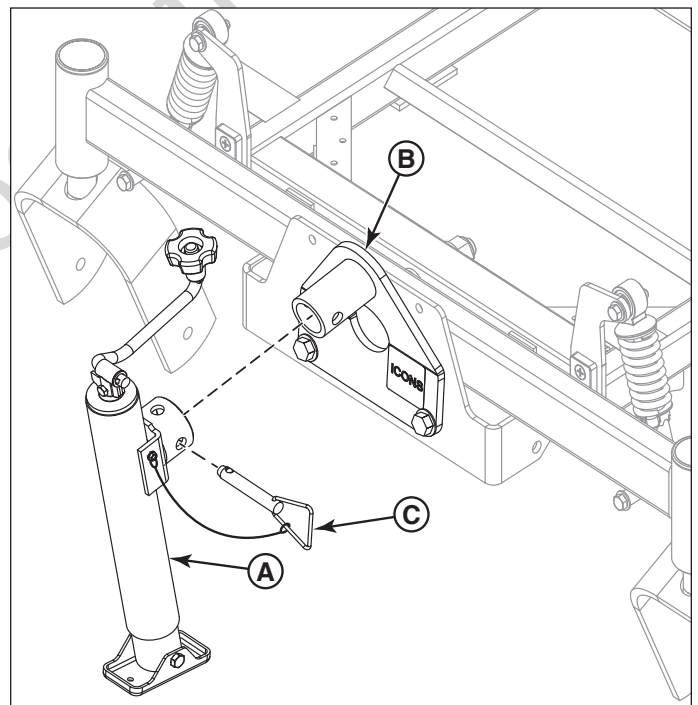

Figure 1. Installing the Jack
2. Install the jack (**A, Figure 1**) to the jack mount (**B**) and secure using the jack's hitch pin (**C**).